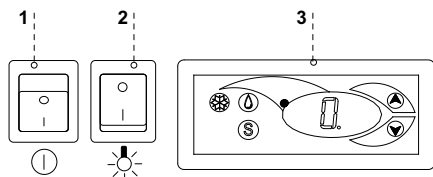

Fig.7 Control panel
- Turn the main switch on Fig.7/1 (p.14), which will activate the thermostat, and then the aggregate of the device.
- Set the temperature on the thermostat panel inside the display cabinet Fig.7/3 (p.14)
- Turn on the lighting switch Fig.7/2 (p.14)